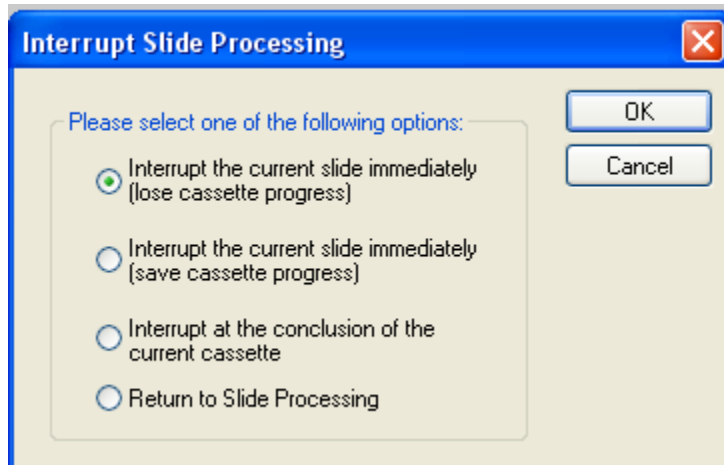

Figure 3-22 Interrupt Slide Processing Option
2. An option selection menu will be displayed. The slides will continue to be processed until an interrupt option is selected. (Figure 3-22.)